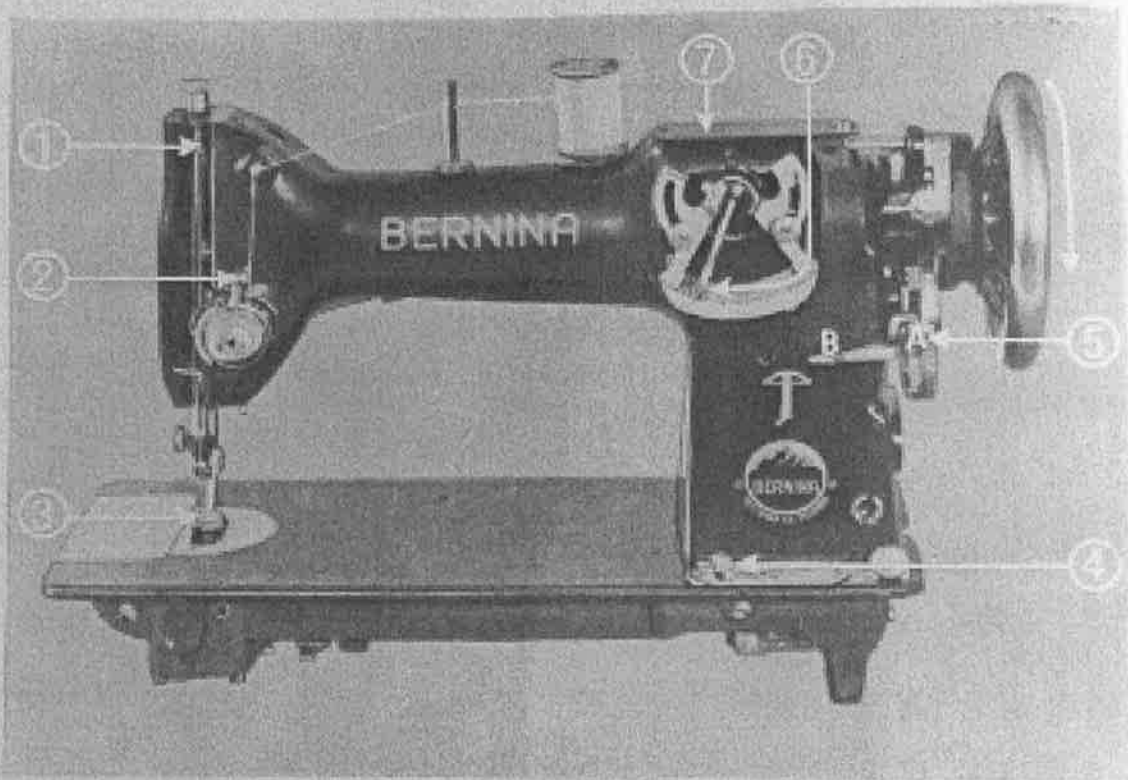

Fig. 18
6. This being done, the **stitch width lever no. 6, fig. 18 should always be placed upon zero position**; then, make some fastening stitches.